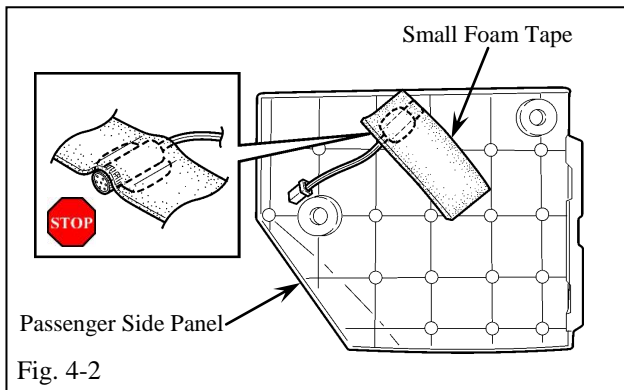
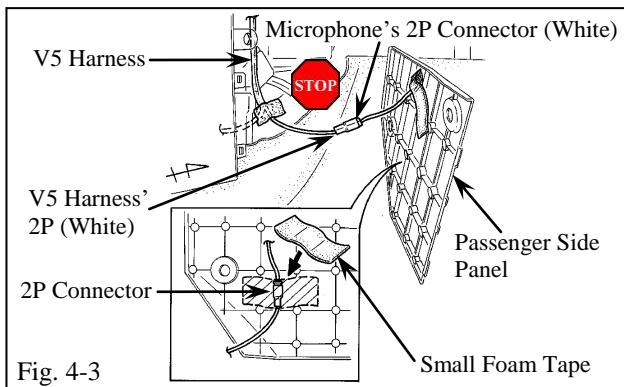

Fig. 4-2
Fig. 4-3
- (c) Secure the microphone with one small strip of foam tape. (Fig. 4-2)
(1) Do not cover the opening of the microphone with the foam tape.
- (d) Plug in the V5 harness' white 2P connector to the microphone's white 2P connector. (Fig. 4-3)
(1) Verify the connectors are plugged in securely.
- (e) Secure the 2P connectors to the passenger side panel with a small foam strip of foam tape. (Fig. 4-3)